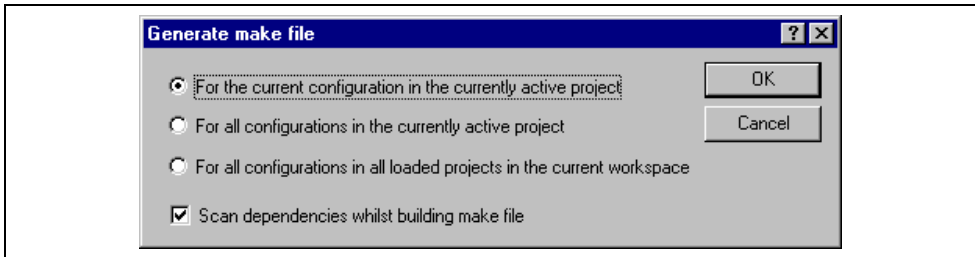

Figure 3.23: Generate makefile Dialog
4. Once this menu has been selected a dialog is displayed which asks the user what parts of the workspace need to be added to the make file. (See figure 3.23.)